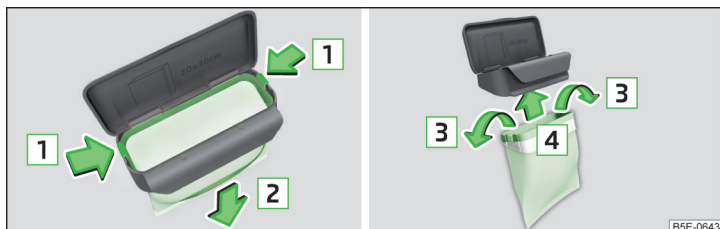

Fig. 112 Replace bags
- Press the two locking lugs on the frame in the direction of arrow **1** » Fig. 112.